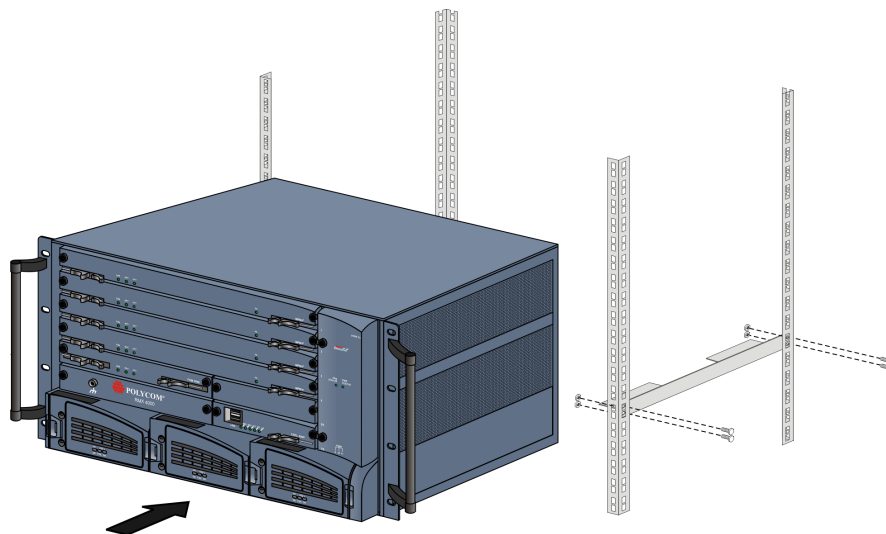

Figure 1-2 Installing chassis runners and RMX in a rack
- 1 When the RMX is to be rack mounted chassis runners must be installed on the rack as shown in Figure 1-2. Two chassis runners are included in the *Rack Installation Accessories* kit and are attached facing inward from the outside of the 19"/23" rack mount.